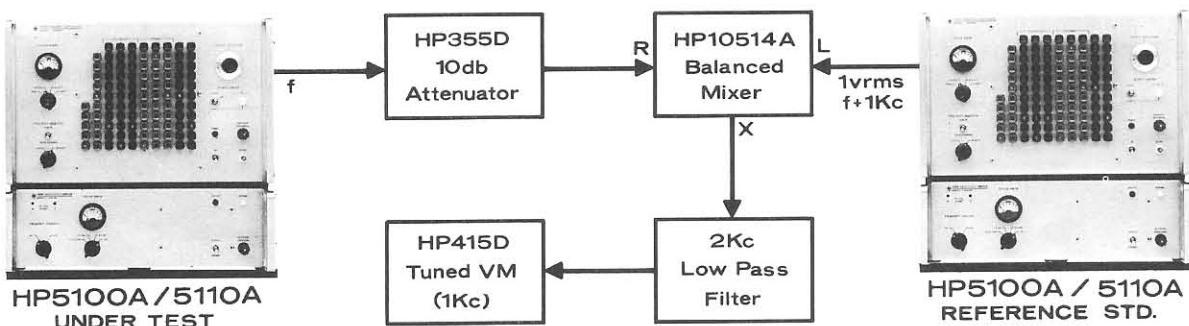

Figure 5-3. Test Setup - Spurious and Harmonic Signals
Make the measurements using setup shown in Figure 5-3 and the following procedure:
1. Connect the equipment as shown in Figure 5-3.
NOTE: The tuned voltmeter is calibrated for an input from a square law device (output voltage proportional to power input). The db reading must be doubled when using the voltmeter in the circuit of Figure 5-3. That is, an indication of 1 db is really 2 db in this application.
Use Φ 310A Wave Analyzer for signals up to 500 kc. Use equipment shown in Figure 5-3 for frequencies of 500 kc and higher and proceed as follows:
3. Connect output of 355D to "R" input of Φ 10514A. The rest of the test setup is shown in Figure 5-3.
TEST NO. 1 CALIBRATION TEST FREQ. 22.000 SPURIOUS 22.001 (NOTE: USE FIGURE 5-3 AS A TEST SET-UP WHEN SETTING UP REFERENCE AND LOOKING FOR SPURIOUS FREQUENCIES)